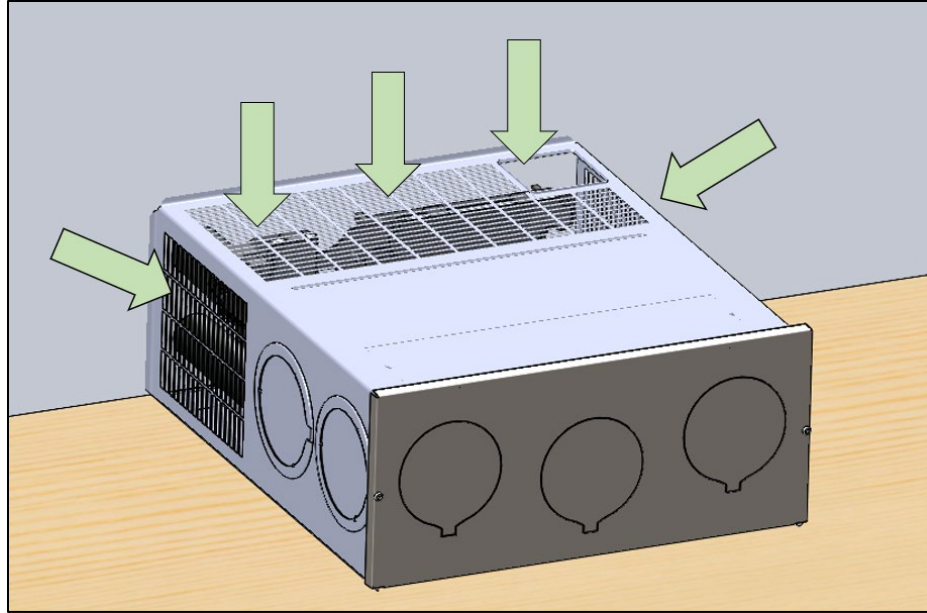

Figure 2
- G. The total area (in²) required from return air grate to the furnace return air louvers must be maintained (See **Figure 2**). Any blockage (including ducting, RV cabinet members, other RV components and appliances, etc.) in this path reduces return air area and must be considered.